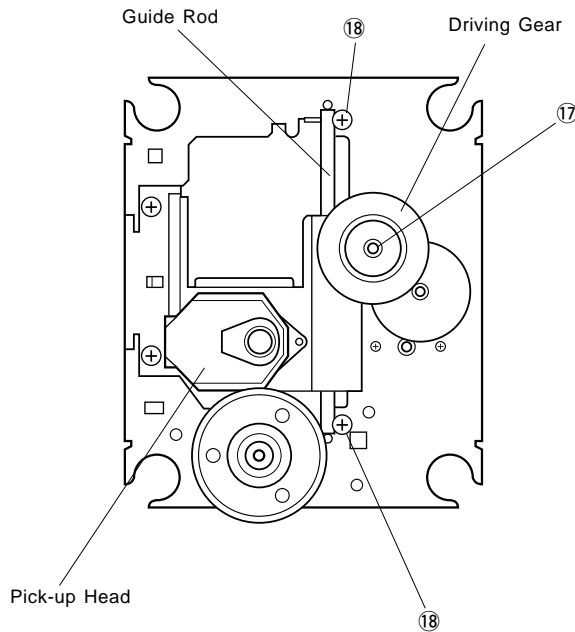

Fig. 13
- a. Remove a washer ( 17 ) and then remove the Driving Gear in Fig. 13.
- b. Remove 2 screws ( 18 ), pull out the Guide Rod and then remove the Pick-up Head in Fig. 13.